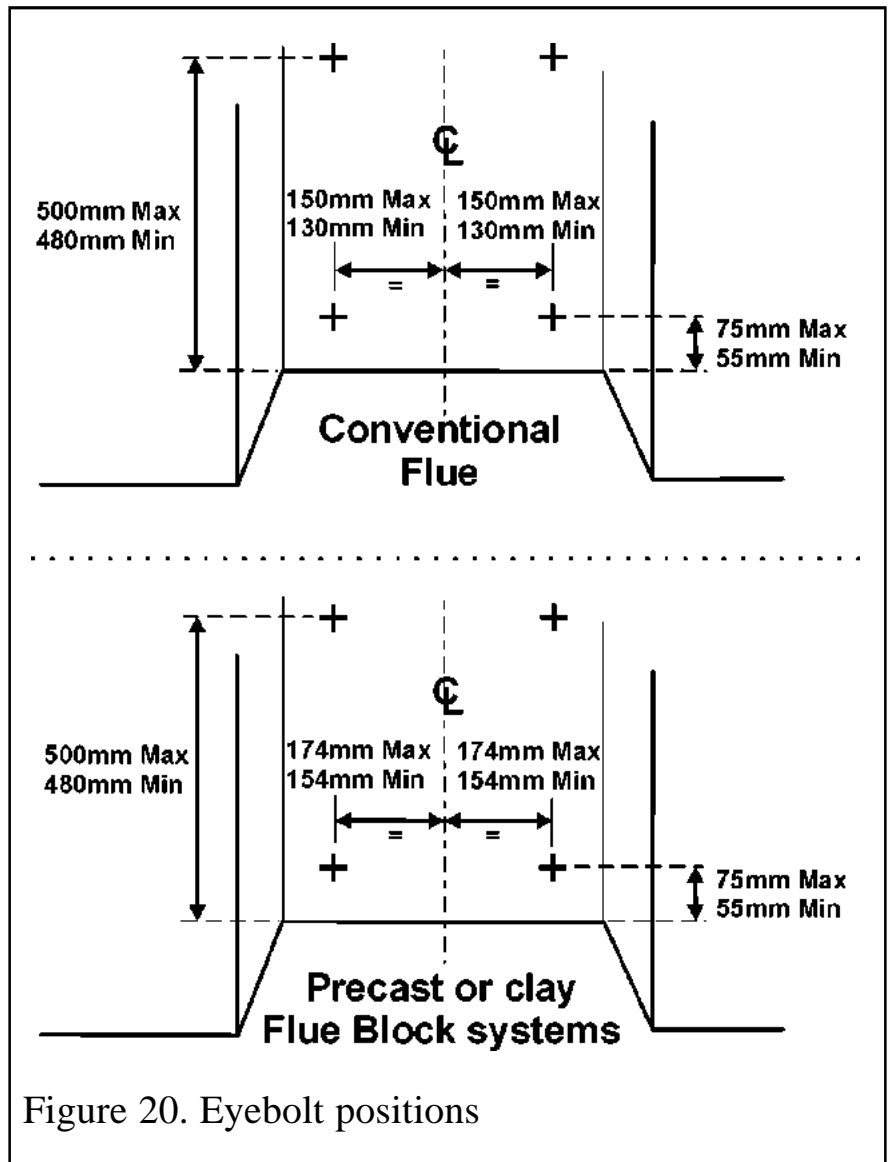

Figure 20. Eyebolt positions
2. Drill four holes in the rear wall of the fireplace for the eyebolt plugs. The holes should be drilled within the range of positions shown in figure 20 using a no.12